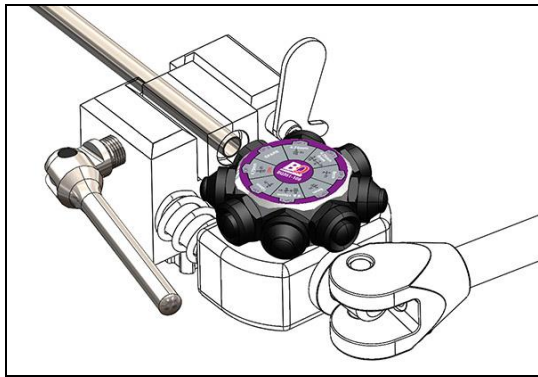

Figure 5
1. Insert the tube into the die set but do not fully tighten the die-clamp bolt. (**Figure 5**).